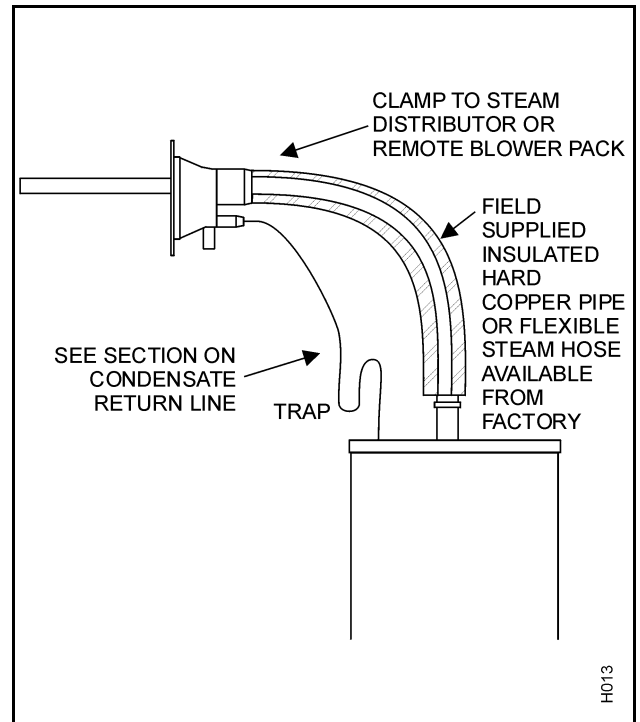
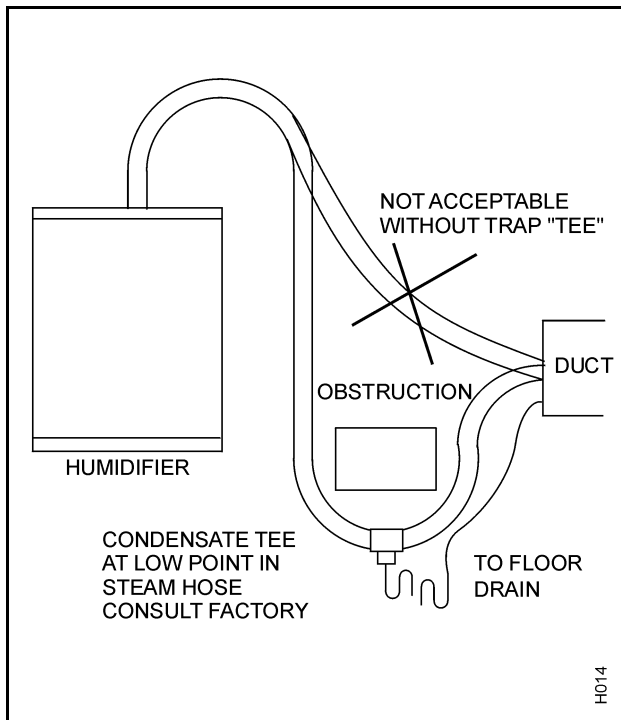

Figure 7. Steam Line Connection
Figure 8. Condensate Tee At Any Low Point In Steam Line
- (4) Steam lines should slope upwards from the humidifier to the steam distributor. (See Figure 7.)
- (5) Flexible steam hose, if used, must be supported to avoid crimps, bends, and sags. (Please consult local agent if proper slopes are not available.)
- (6) If the steam supply line must be routed below the humidifier location, a condensate trap 'tee' will be required to prevent blockage at the low point in the steam line. Run the condensate hose to the nearest floor drain after trapping. (See Figure 8.)